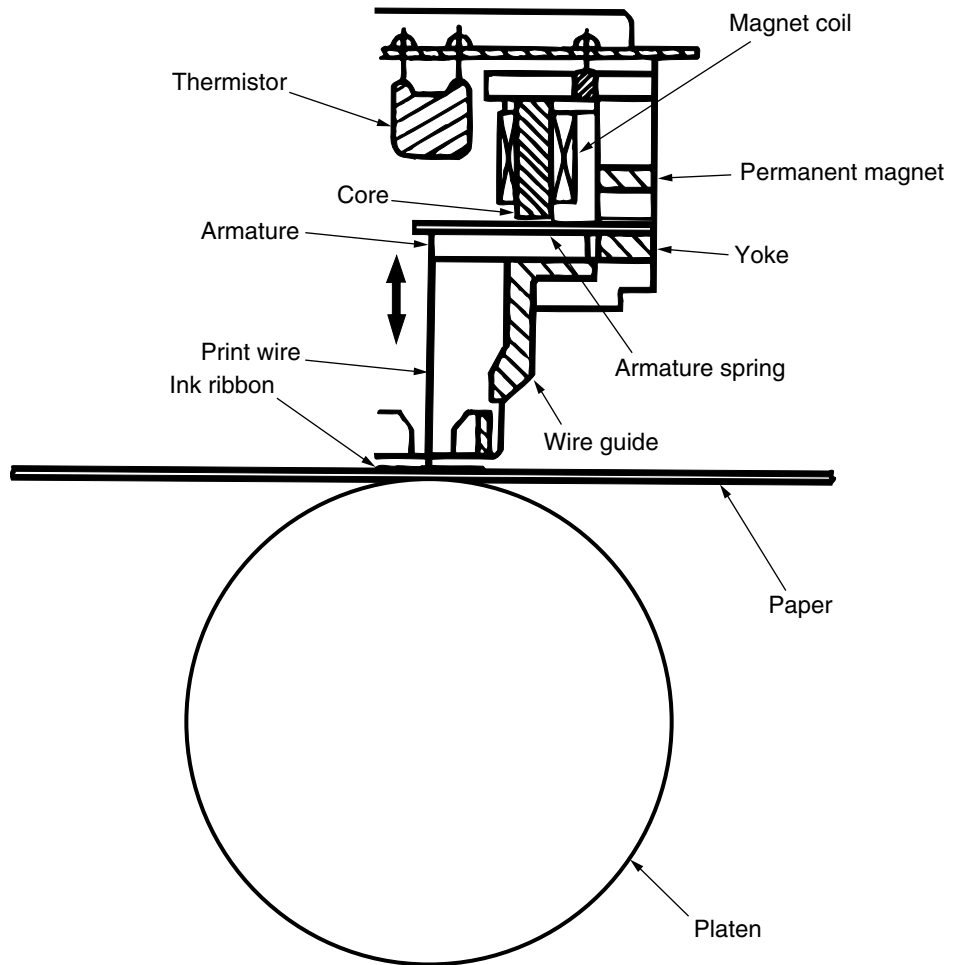

Figure 12-3
(1) Actions of the Print Head (See Figure 12-3.)